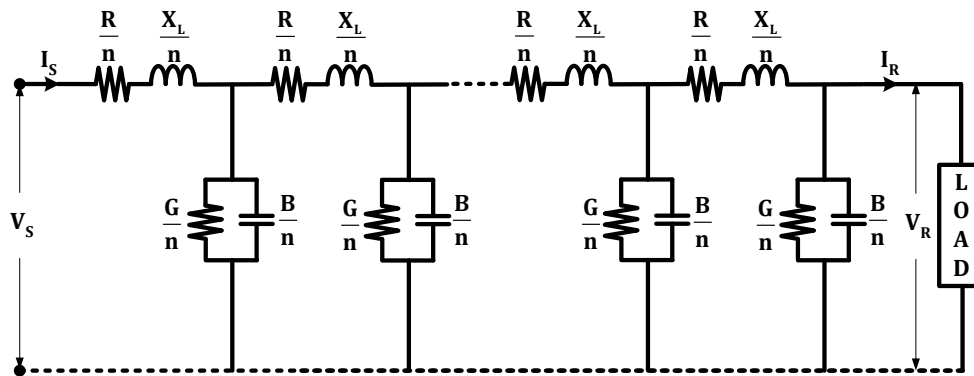

Figure 1.6 Equivalent Circuit of Long Transmission Line
- Fig. 1.6 shows the equivalent circuit of a 3-phase long transmission line on a phase-neutral basis. The whole line is divided into n sections, each section having line constants $\frac{1}{n}$ th of those for the whole line.
- The leakage susceptance (B) and leakage conductance (G) are shunt elements. The leakage susceptance is due to capacitance exist between line and neutral. The leakage conductance considers the energy losses occurring through leakage over the insulators or due to corona effect between conductors. Admittance = $\sqrt{G^2 + B^2}$